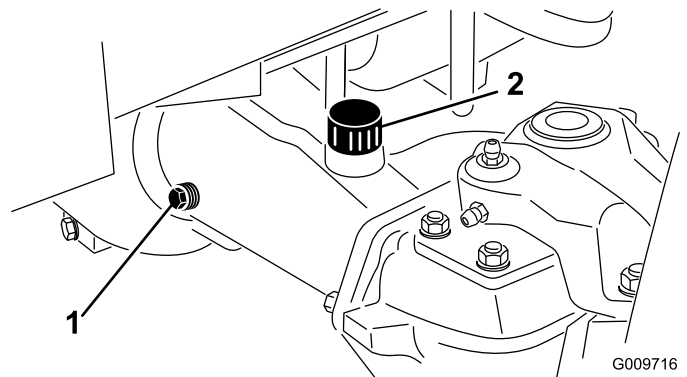

Figure 106
2. Remove a check plug from 1 end of the axle (Figure 106) and make sure that the oil is up to the bottom of the hole. If the level is low, remove the fill plug (Figure 106) and add enough oil to bring the level up to the bottom of the check-plug holes.